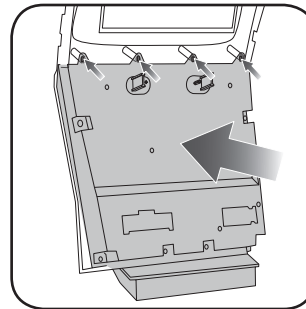

Fig. 3.3
3. Snap the EDG2 backplate onto the bezel assembly and secure with the four included Phillips screws (Fig. 3.3)